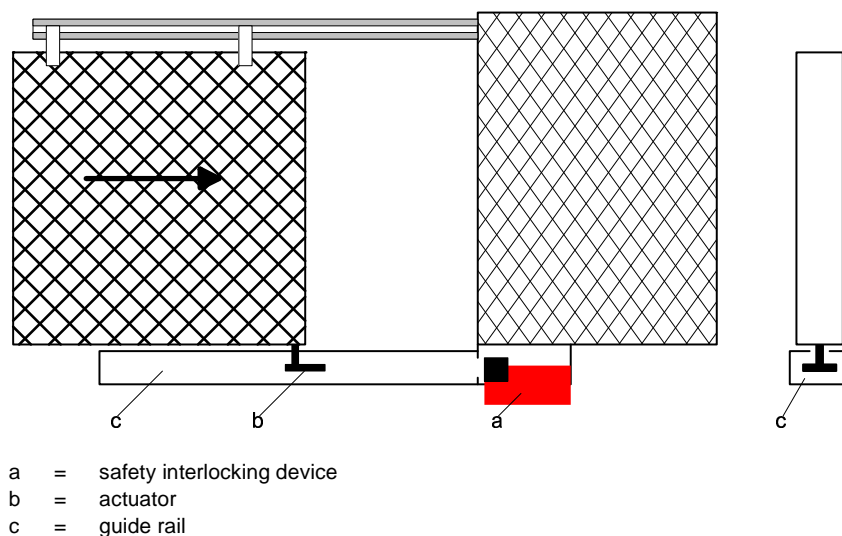

Fig. 7 Mounting example: „increased protection“
- A concealed installation can hinder the insertion of “substitute actuators” and at the same time provide *increased protection* against damage (see Fig. 7):